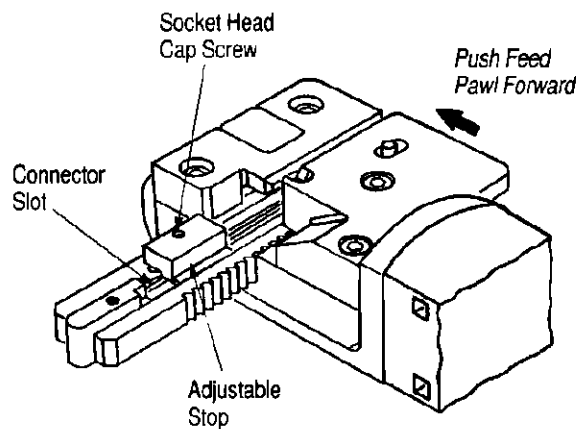

Figure 2
1. To determine the size of slot required for the connector to be terminated, push the feed pawl forward and slide the carriage to the left as far as it will go. Then loosen the socket head cap screw located at bottom side of the adjustable stop, (shown in Figure 2), allowing the stop to be moved right or left.